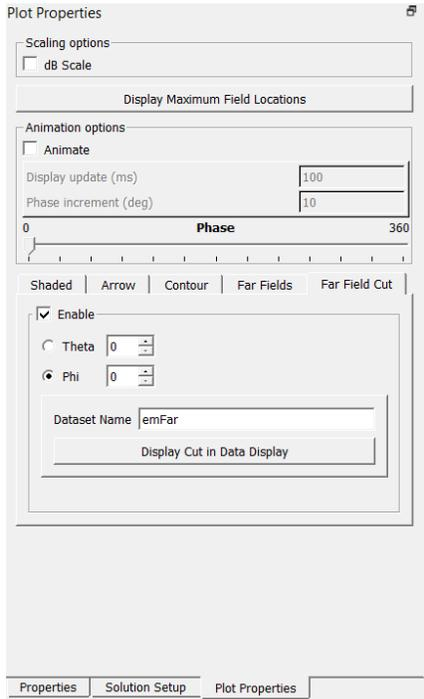

Figure 35. Edit Far Field Cut window
- Run the simulation. The results are shown in Figure 35.